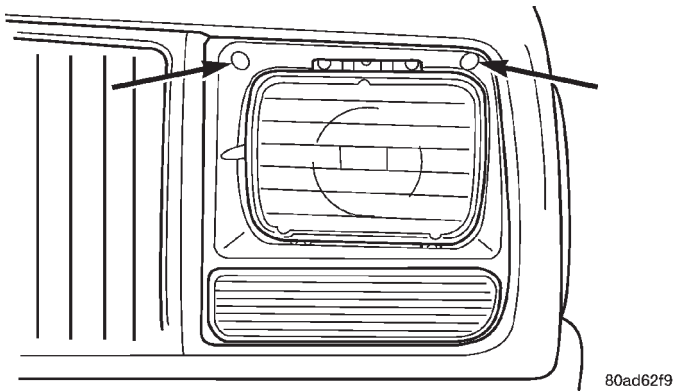

Fig. 1 Headlight Bezel
1. Remove the 2 screws holding the bezel in place and remove bezel (Fig. 1).
1. Remove the 2 screws holding the headlight bezel in place and remove the bezel (Fig. 1).